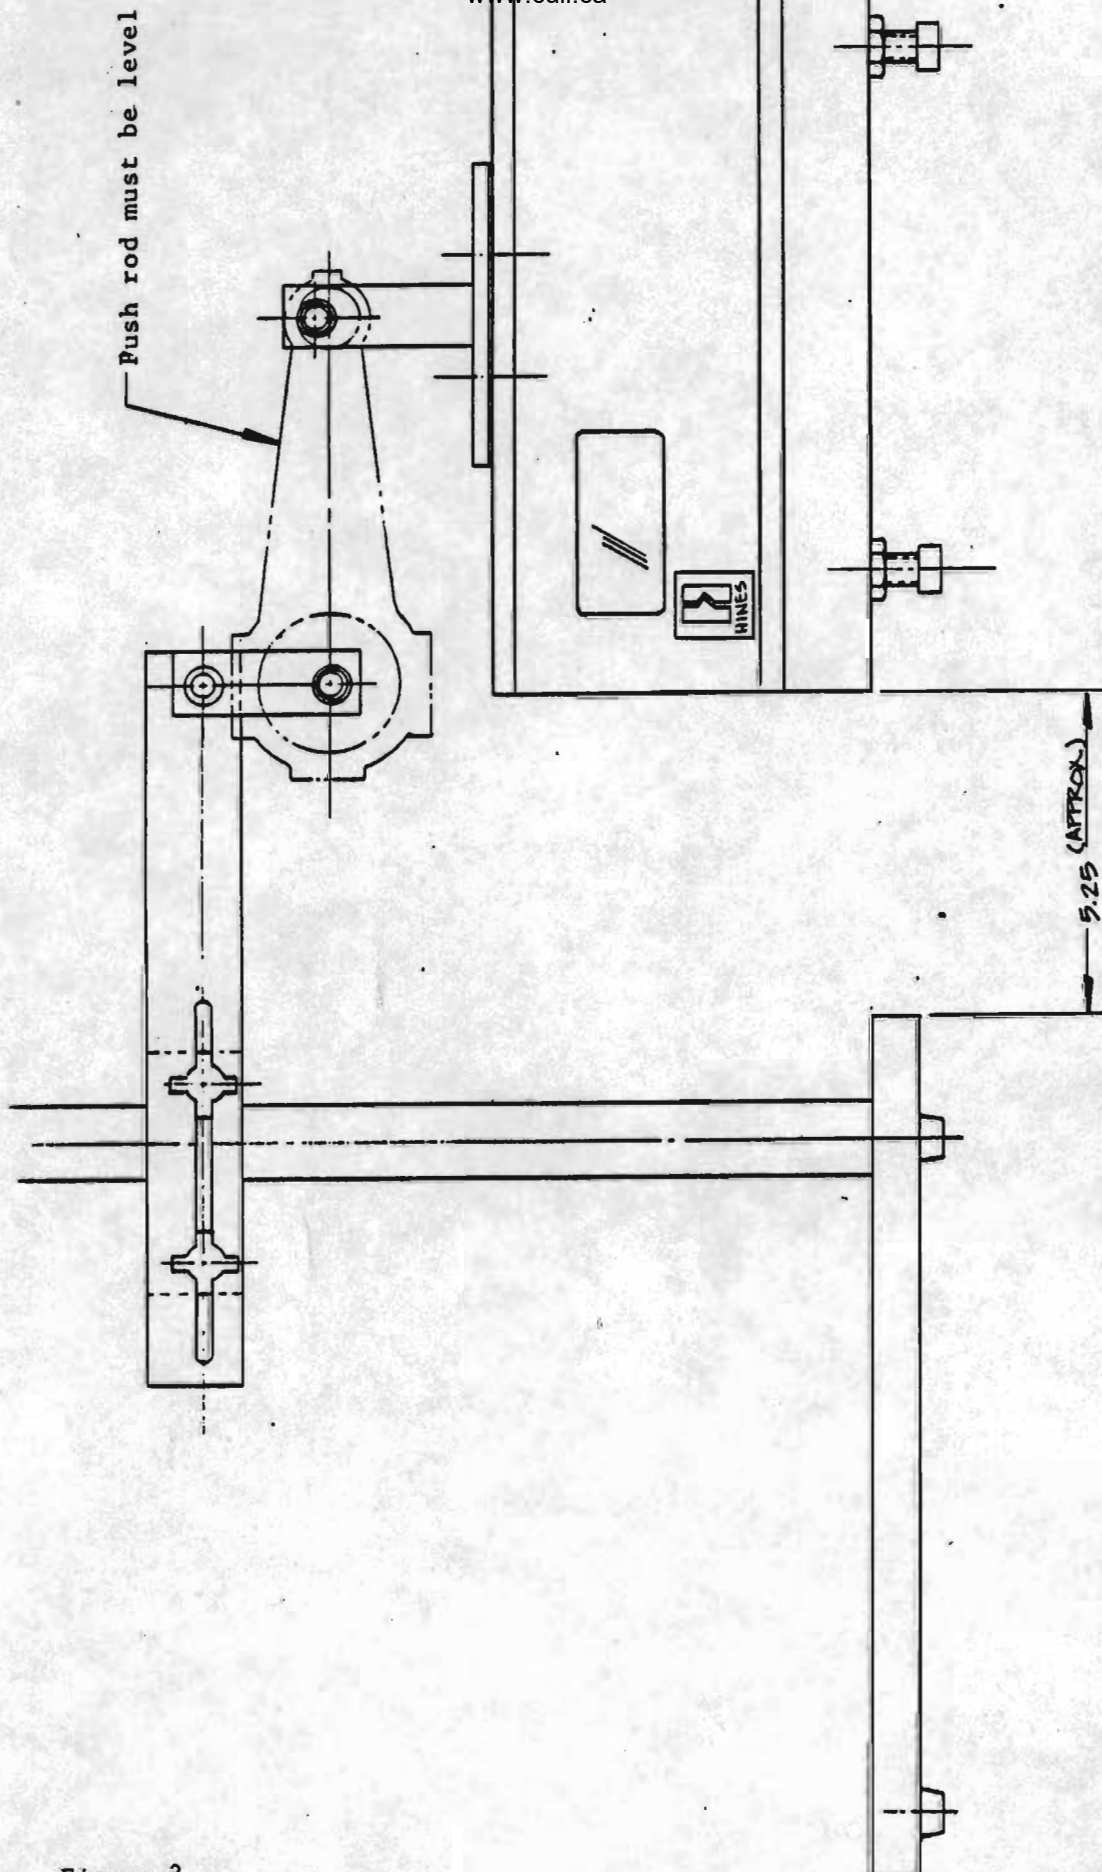

Figure 3
1. Position the scale and rod weighing device so that they are square with each other as shown in Figures 3 and 4.